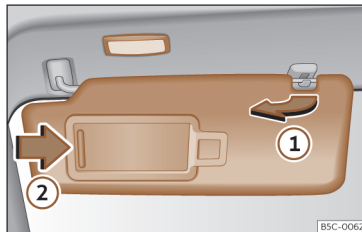

Fig. 89 Sun visor
- The sun visor can be pulled out of its mounting and turned towards the door >>> Fig. 89 ①.